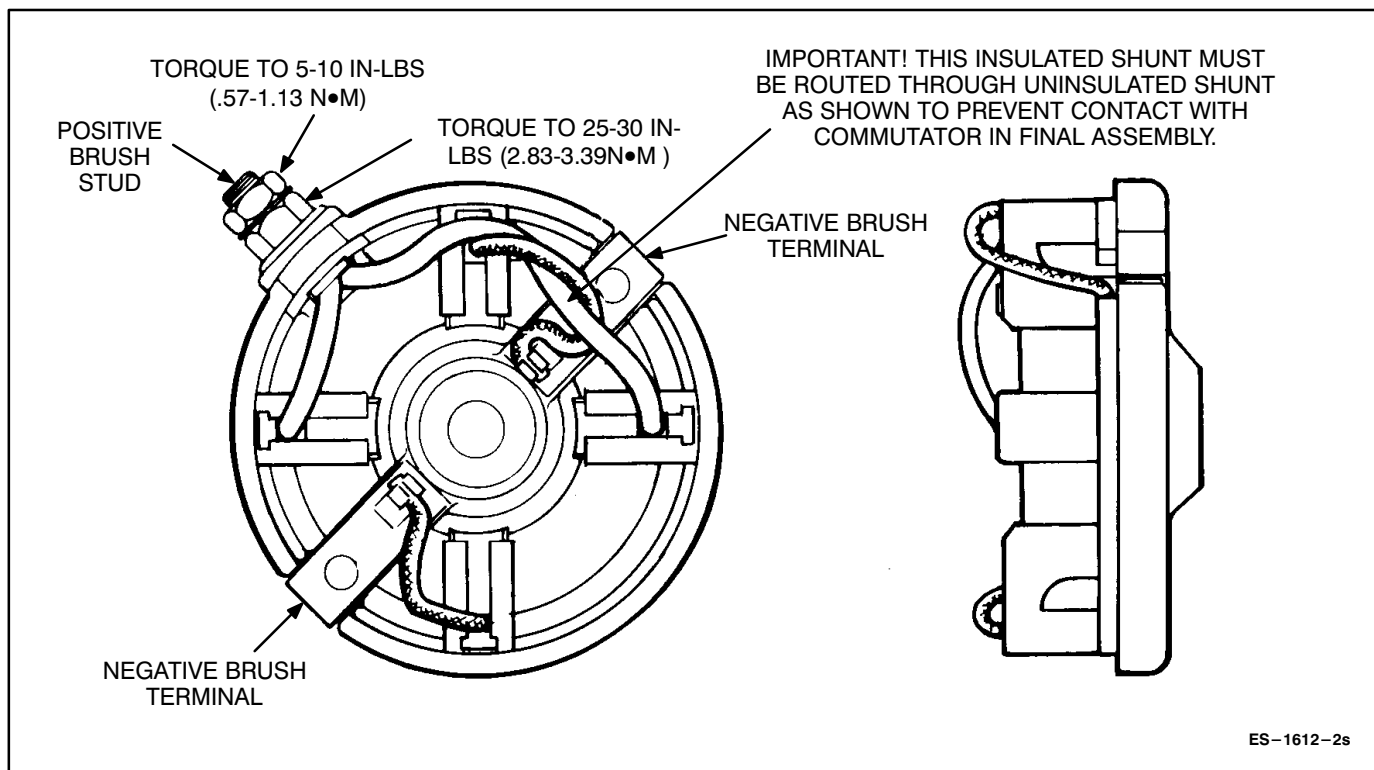

FIGURE 8-28. BRUSH ENDCAP
2. Push the negative brush terminals over the through-bolt holes on the brush endcap (Figure 8-28).